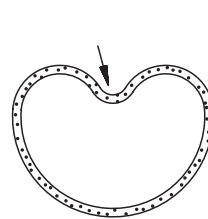

Fig. 1
- (1) Use lithium soap group multi-purpose grease.
- (2) For fitting a seal ring, make it heart-shaped as shown in the right figures and press one end of it into the groove. Then, fit the whole seal ring while pressing it with your finger (Figs. 1 and 2).